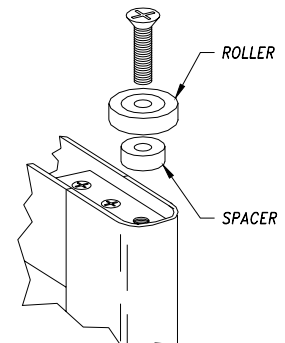

FIGURE 11: Roller Assembly
3. Install the roller and spacer to the roller block at the leading edge of the top rail using a 5/16-18 screw (Figure 11).